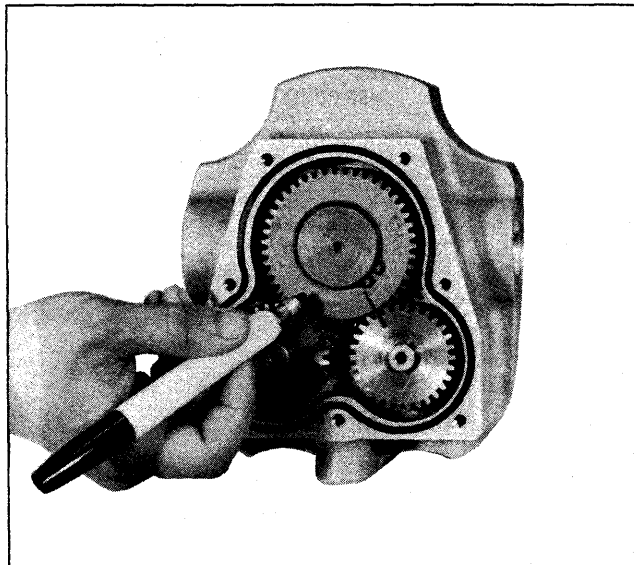

FIGURE 6
8.) The previous step exposed a set of timing gears. Before removing these parts you must mark them (Fig. 6). The two small gears should also be marked left and right.